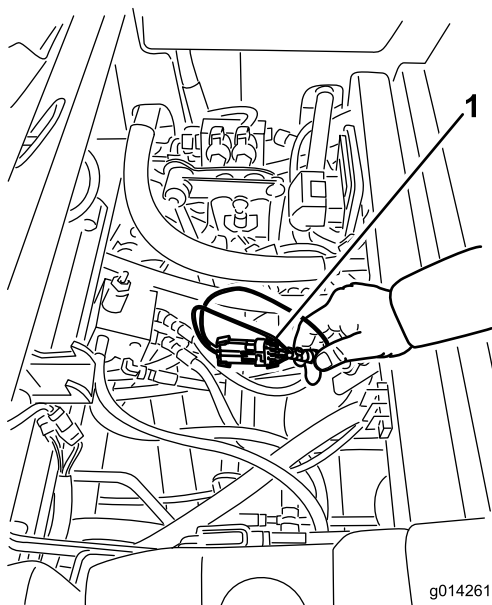

Figure 27
3. Locate the wire harness and connectors near the controller (Figure 27).